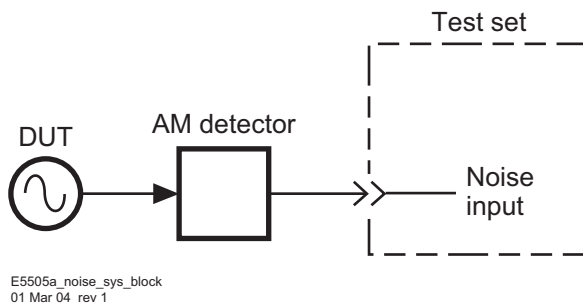

Figure 227 Double-Sided spur AM noise setup (method 2, example 1)
- 1 Connect circuit as shown in Figure 227, and tighten all connections. If the N5500A Option 001 or N5507A is available, use one of the connection diagrams described in “AM noise measurement block diagrams” on page 285.